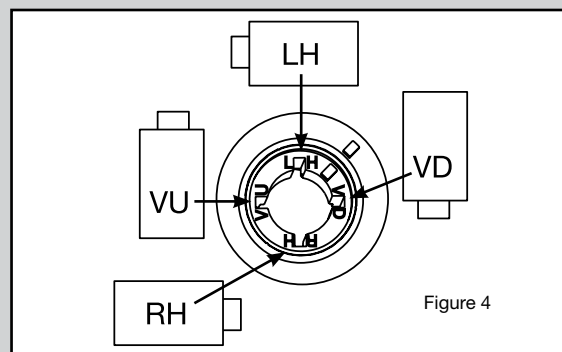

Figure 4
6. Insert the spindle through the spindle hole of the door. With the bolt retracted, carefully thread (clockwise) the spindle into the drive cam until tight. Next, rotate (counterclockwise) at least 1/2 turn until the groove in the spindle is aligned with the correct spline position. (Refer to the Spline Key Position Chart - Figure 4).